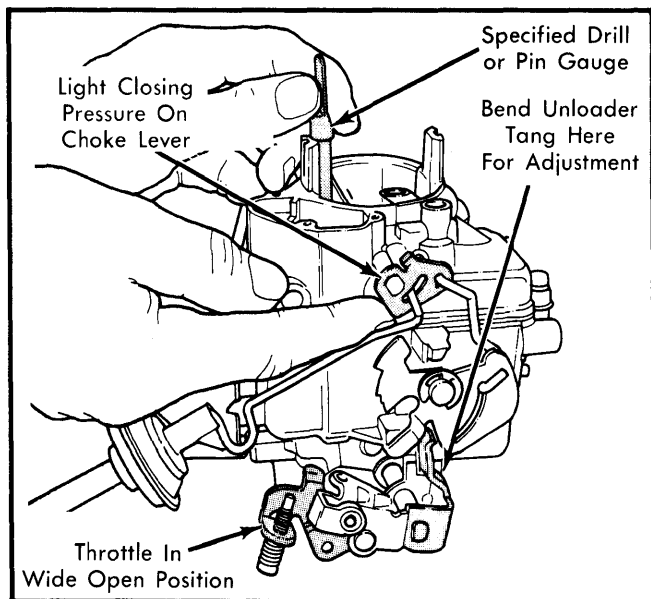

Fig. 4 Adjusting Choke Unloader
1) Hold throttle valves in wide open position. Apply light finger pressure on the choke shaft lever to close choke valve. See Fig. 4.